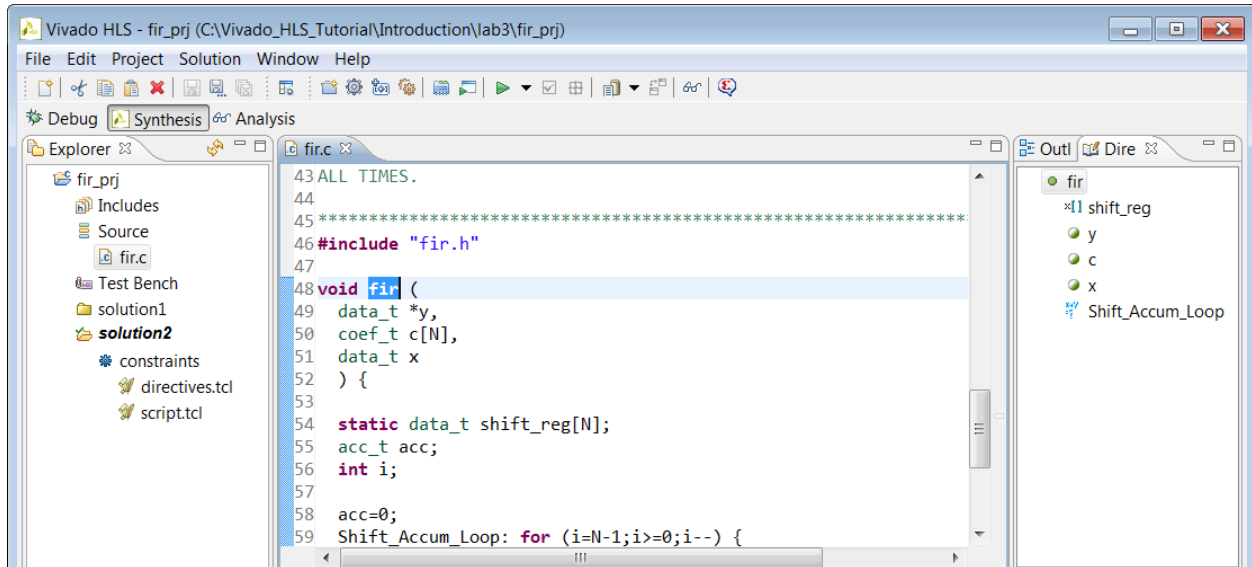

Figure 22: Opening the Directives Tab
4. In the **Explorer** pane, expand the **Source** container (as shown in Figure 22).
6. Activate the **Directives** tab in the Auxiliary pane and select the top-level function `fir` to jump to the top of the `fir` function in the source code view (**Figure 22**).
The Directives tab, shown on the right side of **Figure 22**, lists all of the objects in the design that can be optimized. In the Directives tab, you can add optimization directives to the design. You can view the Directives tab only when the source code is open in the Information pane.